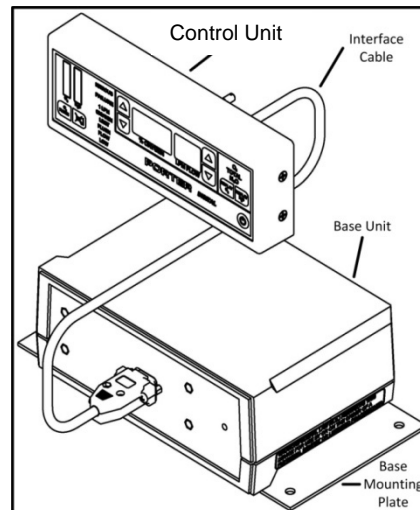

Figure 5. Porter Digital MDM connected with interface cable.
4. Typically mount the Base Unit in a horizontal orientation (Figure 5). Using same mounting plate, may also be mounted vertically up, down, or side. **Do not mount Base Unit upside-down.** Adding “Z” brackets allows for mounting Base Unit horizontally, but in an under cabinet orientation. (Kit B-5555-002, “Z” bracket)
5. Attach one end of the Interface Cable to the Base Unit and the other end to the Control Unit. **Note - Be sure to use the Porter cable that came with the unit and that the cable connector is screwed in at each end.** (see Figure 5.)